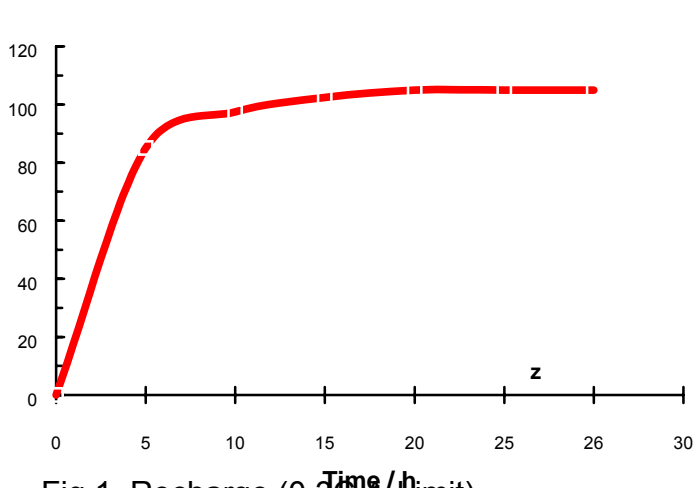

Fig.1 Recharge (0,3C A-Limit)
- i. Float service 2.27-2.30V/C at 25°C (Fig 1)